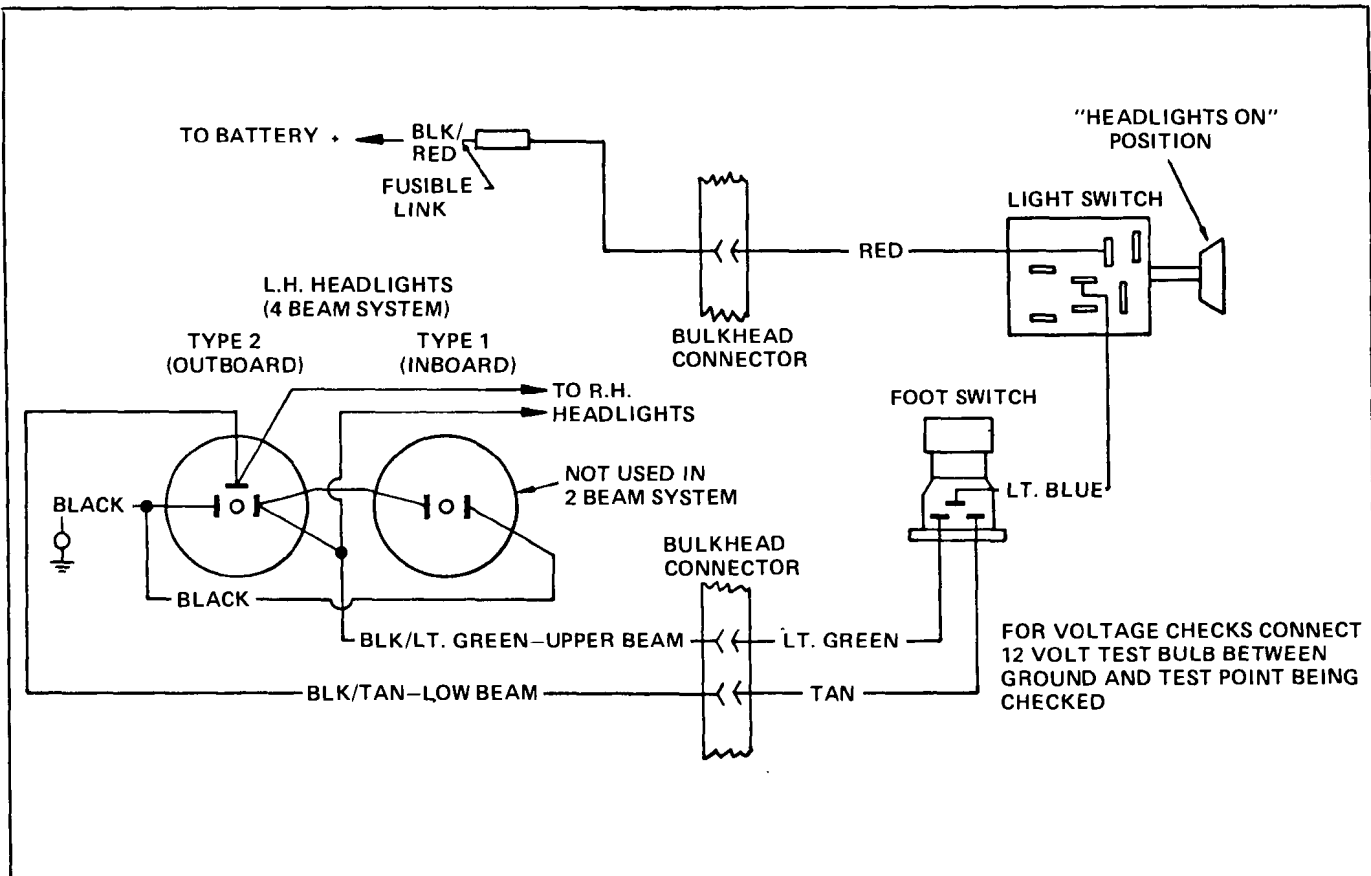

Fig. 12-17 Headlight Circuit
*See headlight circuit (Fig. 12-17).